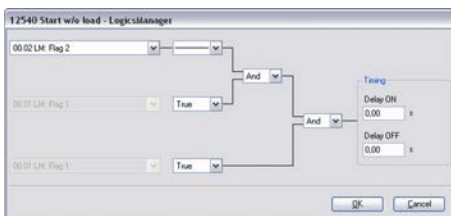

Fig. 179: LogicsManager function "Start without load"
3. ➤ The LogicsManager function "Start without load" (parameter 12540 ↪ p. 279) can be configured as shown in (Fig. 179).